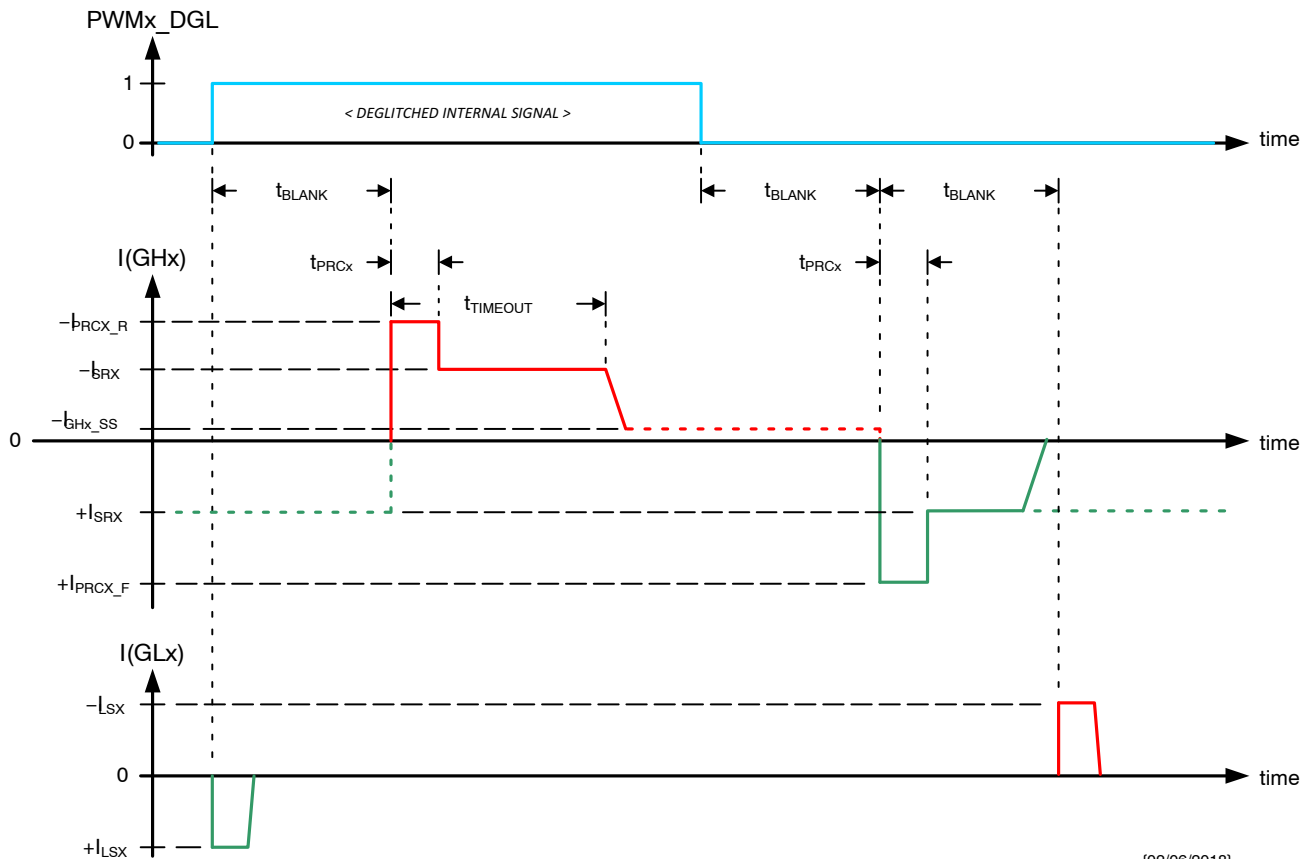
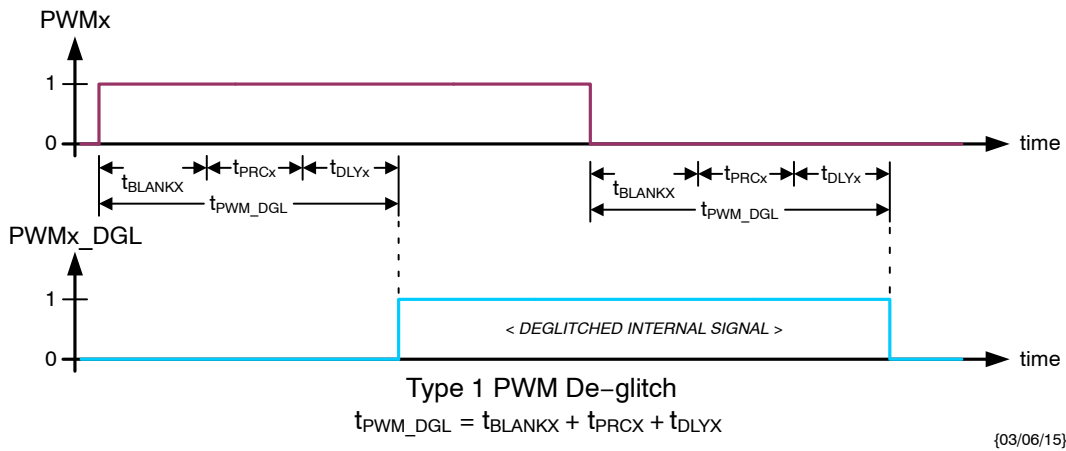
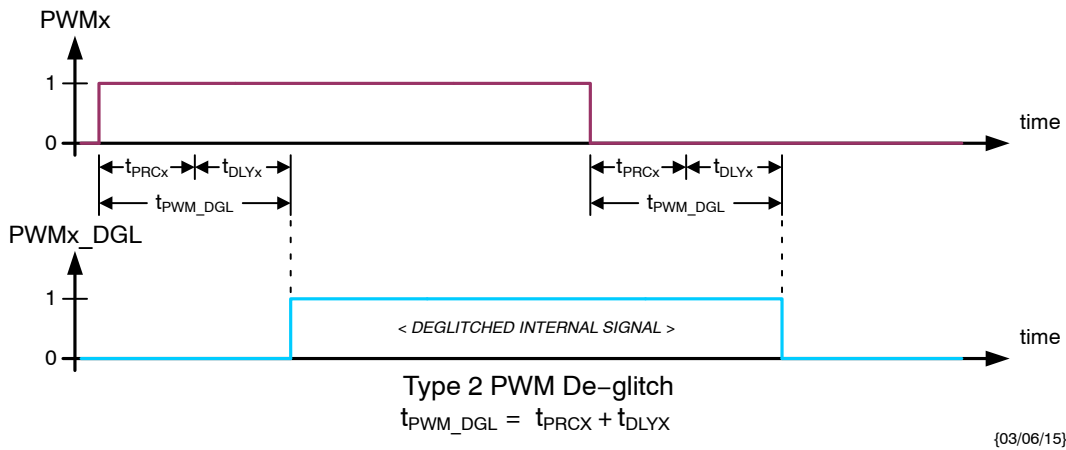
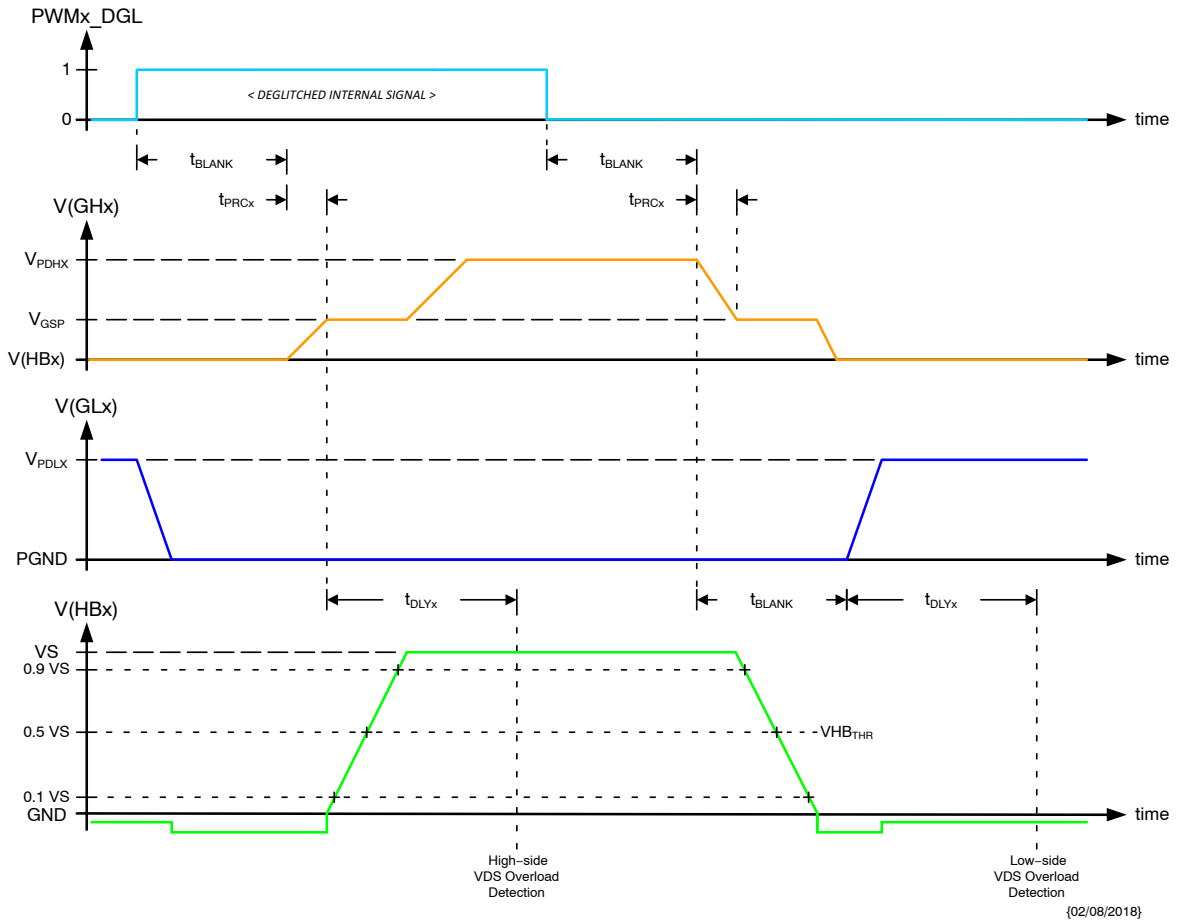

Figure 9. Gate Drive Current Evolution
Figure 10. Type 1 PWMx Input De-glitch – CR14.DGLx = 0
Figure 11. Type 2 PWMx Input De-glitch – CR14.DGLx = 1
Figure 12. HBx Output Switching in Half-Bridge Configuration
When multiple PWMx inputs are needed to be active, the scheduled PWM signals should be offset in time to avoid degradation of the VDS overload detection due to crosstalk (see § *Overload Protection*). The minimum offset should be based on the tPWM\_DGL times appropriate for the respective channels (see § *Switching Behavior of Half-bridge Drivers*, Figure 10 and Figure 11).
The external high-side NMOS switches are controlled with gate pre-charge and slew phases, while the external low-side switches are controlled via simple drive stages supplying a nominal 4x multiple of the selected high-side driver slew current (see Figure 9 and § *Electrical Characteristics: Pre-driver Slope Control*). The timing for the gate drivers is provided by the digital logic, where the key parameters can be programmed via SPI in order to adapt different MOSFET types and application switching speeds.
- adaptive PWM input de-glitch construction when in half-bridge configuration is selected by DGLx[6:0] bits (see Figure 10, Figure 11, Table 21 and Table 22).
In order to not overload the charge pump circuit in case of loss of VS or in case of a disconnected security switch, the steady state output current of the high-side gate drivers is limited to  $I_{GHX\_SS}$  after  $t_{TIMEOUT}$  (see  $I(GHx)$  in Figure 9 and § *Electrical Characteristics: Half-Bridge Pre-Driver Outputs*).
When operating in PWM mode, type 1 de-glitch is selected when CR14.DGLx = 0 (see Figure 10) and the adapted time is given by:
Type 2 de-glitch is selected when CR14.DGLx = 1 (see Figure 11) and the adapted time is given by:
When operating in PWM mode, the timing of the gate drivers is according to Figure 12.
In the pre-charge phase ( $V_{GHx} < V_{GSP}$ ) the GHx output delivers the selected rise ( $I_{PRCx\_R}$ ) or fall ( $I_{PRCx\_F}$ ) current for the selected time ( $t_{PRCx}$ ), and in the slew phase ( $V_{GSP} \leq V_{GHx} \leq V_{PDHX}$ ) the GHx output delivers the selected current ( $I_{SRx}$ ) for up to the gate drive timeout time ( $t_{TIMEOUT}$ ). After  $t_{TIMEOUT}$ , the GHx output delivers the timeout current ( $I_{GHx\_SS}$ ). The GLx output always delivers a multiple ( $I_{LSx}$ ) of the selected slew current (see Figure 9 and § *Electrical Characteristics: Half-Bridge Pre-Driver Outputs, Pre-driver Slope Control*).
- the PWMx\_DGL resulting from the channel's operating configuration (see § *Switching Behavior of Half-bridge Drivers*, Figure 10 and Figure 11);
The delay time  $t_{DLYX}$  is started after the adapted  $t_{PWM\_DGL}$  at the start of the switch activation (see Figure 10 and Figure 11, and V(HBx) in Figure 12). In the case of the high-side MOS, the delay time is started at the end of the pre-charge time  $t_{PRCX}$ . In the case of the low-side MOS, the delay time is started concurrent with the GLx turn-on current (see I(GLx) in Figure 9). At the end of time  $t_{DLYX}$  the switching node voltage is compared with the appropriate VDSTHR\_R or VDSTHR\_F overload detection threshold (see § *Electrical Characteristics: Half-Bridge Diagnostics*).